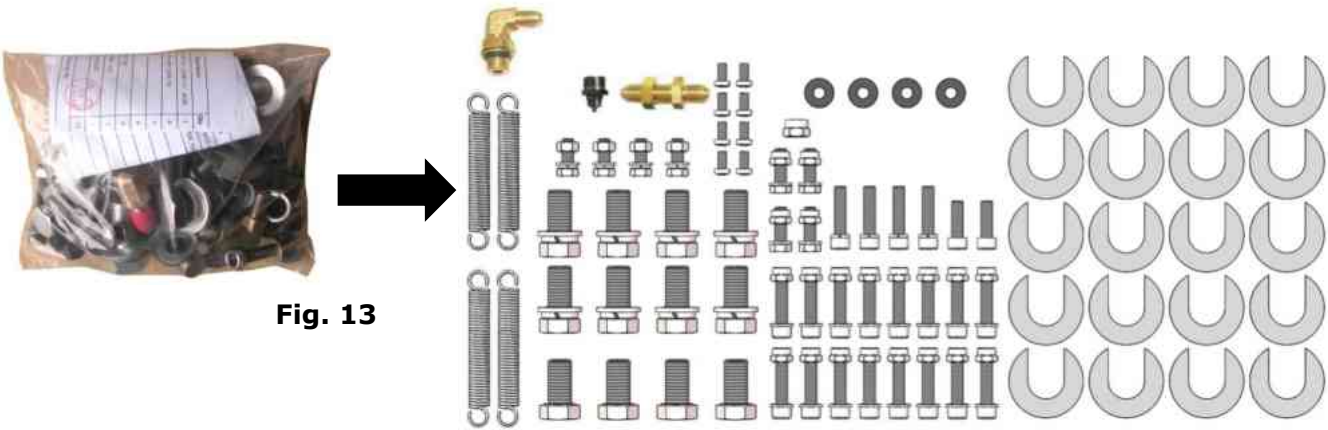

Fig. 13
7. Check the parts of the parts bag according to the parts bag list (See Fig. 13).